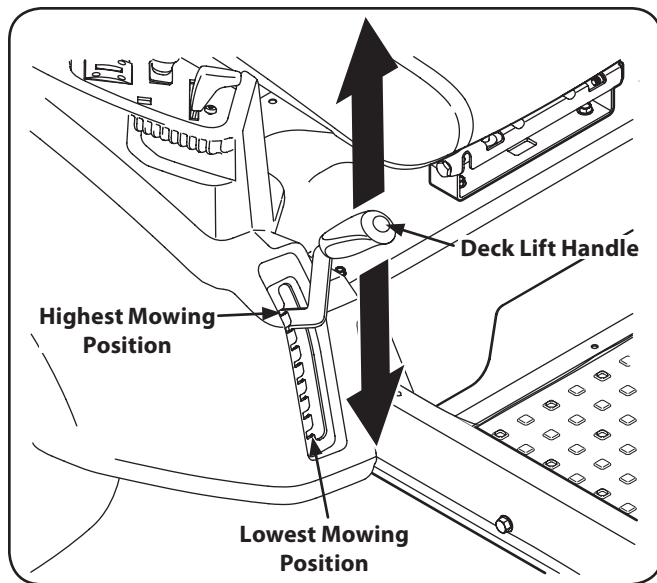

Figure 7-3
- Using the deck lift handle, raise the deck to the position that provides the most horizontal run of the belt between the deck idler pulleys and the PTO pulley on the bottom of the engine. See Figure 7-3.
- Lower the deck into the lowest position using the deck lift handle. See Figure 7-3.
- Place the deck lift handle in the highest mowing position See Figure 7-3.